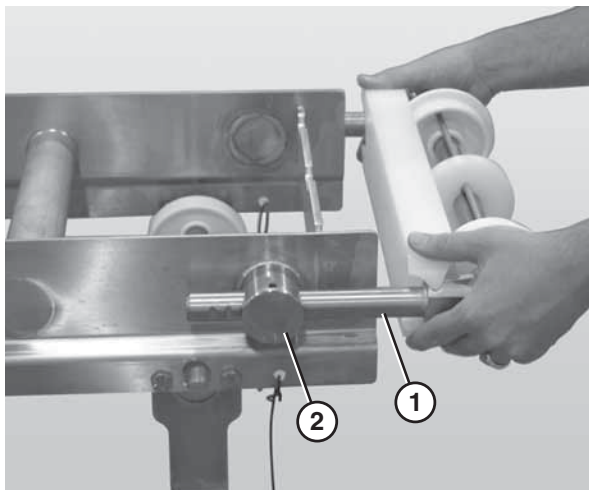

Figure 74
- Slide the idler tail assembly (Figure 74, item 1) out of the take up blocks (Figure 74, item 2).